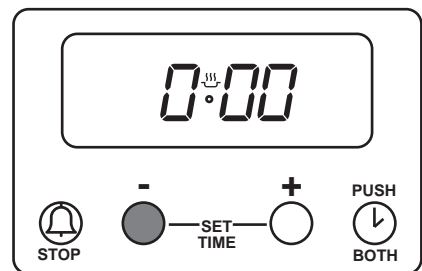

Fig. 10
Press and release button (1). Then press and hold button (1) and the display will count down in one minute intervals to $0^{\text{h}}:00$. See Fig. 10. Release button (1).